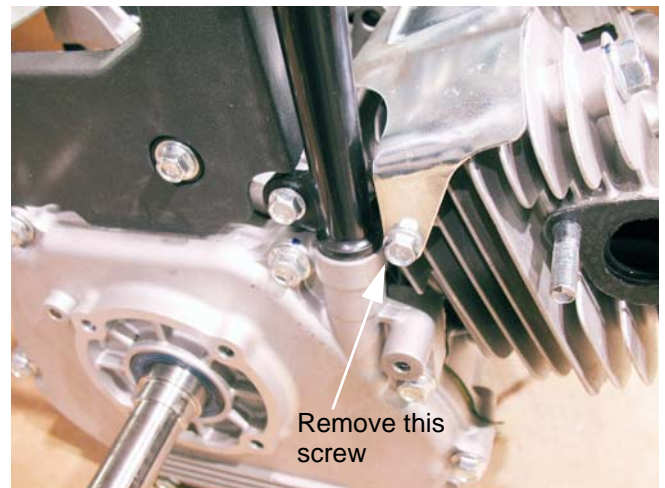

Figure 9.3
8. Remove the screw that fastens the throttle lever to the rear of the cylinder head using a 10 mm wrench. See Figure 9.3.